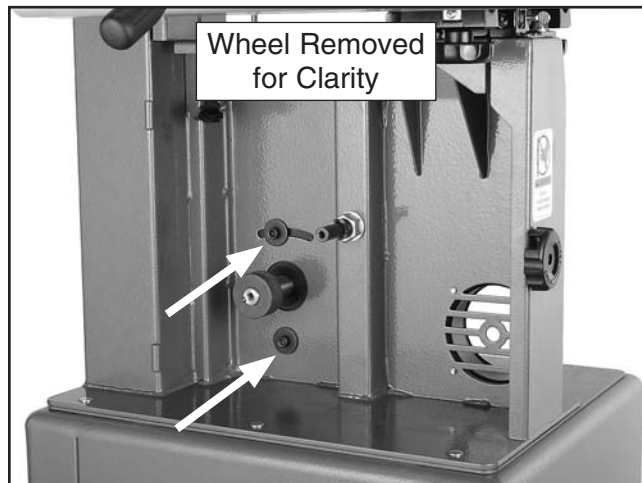

Figure 13. Installing motor (inside view).
9. From the inside of the bandsaw, loosely fasten the motor to the body with the cap screws and flat washers, as shown in **Figure 13**.